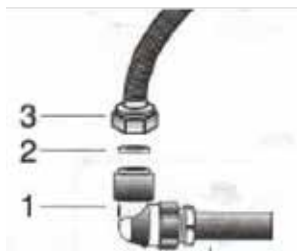

Figure 5
- Metal seals use the combination according to the standards. (See Figure 5)